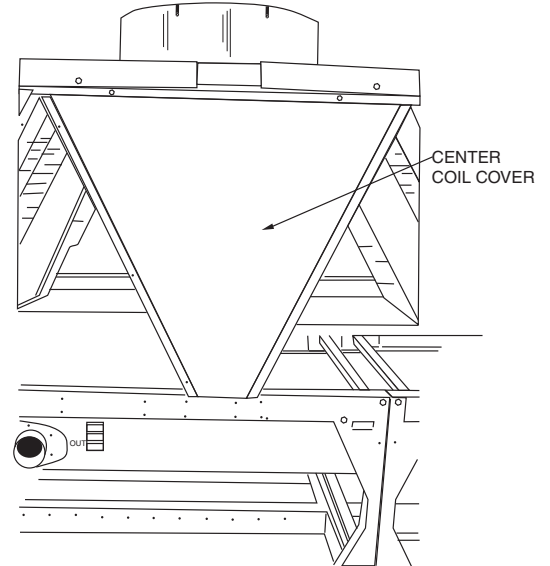

Fig. 4 — Installation of Center Cover
4. For 00EFN900002300A and 00EFN900008500A, using screws provided, install a center cover at each end of each condenser coil section (sizes 30RB090-300, 30XA080-501). See Fig. 4.